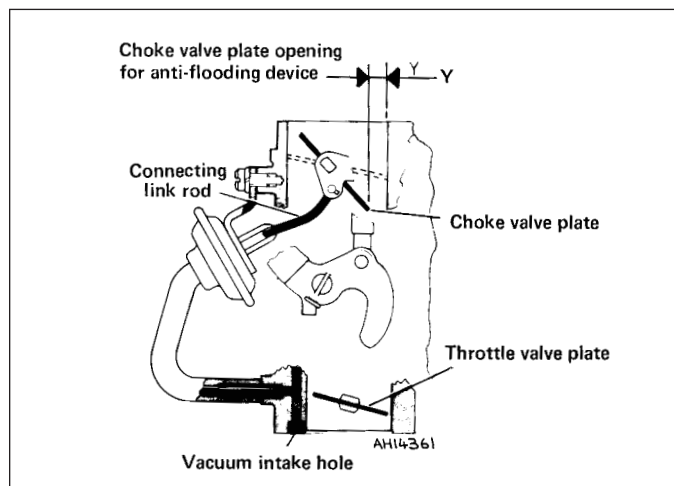

Fig. 3.13 Anti-flooding device (Weber 32 ICEV 50/250) (Sec 9)
3 The choke valve plate gap (Y) (Fig. 3.13) should be between 5.5 and 6.5 mm (0.22 and 0.26 in) and if adjustment is required, bend the stop on the control lever.